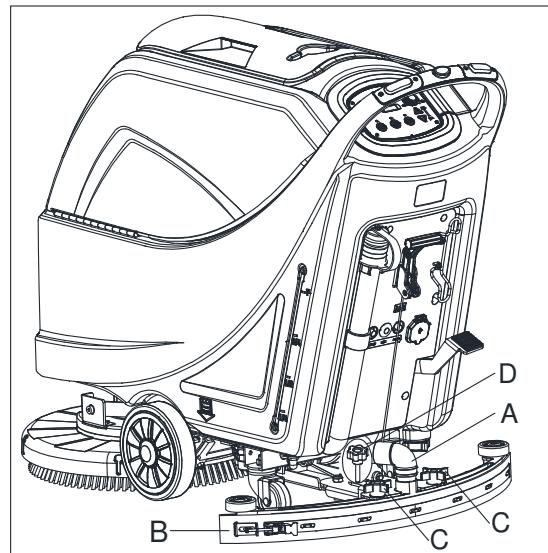
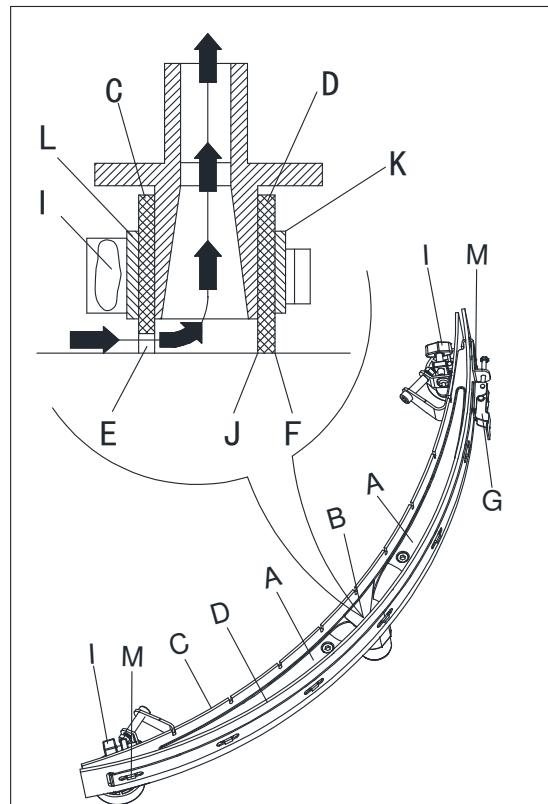

Figure 19
Figure 20
2. Check that the edges (E, Figure 20) of the front blade (C) and the edges (F) of the rear blade (D) lay down on the same level, along their length; if necessary adjust their height according to the following procedure:
- Remove the tie rod (G), disengage the fasteners (M) and adjust the rear blade (D), then engage the fasteners (M) and install the tie rod (G).
- Loosen the knobs (I) and adjust the front blade (C), then tighten the knobs.
3. Check the front blade (C) and rear blade (D) for wear, cuts and tears; if necessary replace them according to the following procedure. Check that the front corner (J) of the rear blade (D) is not worn; if necessary, overturn the blade to replace the worn corner with an integral one. If the other corners are worn too, replace the blade according to the following procedure:
- Remove the tie rod (G), disengage the fasteners (M) and remove the retaining strip (K), then replace/overtturn the rear blade (D). Assemble the blade in the reverse order of disassembly.
- Unscrew the knobs (I) and remove the retaining strip (L), then replace the front blade (C). Assemble the blade in the reverse order of disassembly. After the blade replacement (or overturning), adjust the height as shown in the previous step.
4. Connect the vacuum hose (A, Figure 19) to the squeegee.
5. Install the squeegee (B) and screw down the knobs (C).
6. If necessary, adjust the squeegee balance adjusting knob (D).